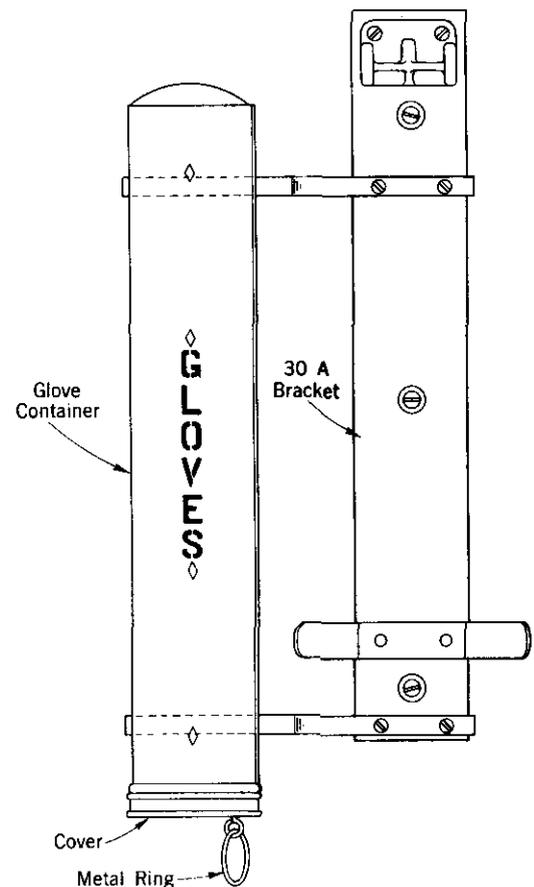

Fig. 2.
3.01 Gloves should be mounted as shown by Fig. 2.